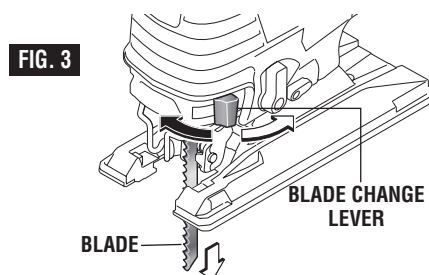

FIG. 3
3. Insert the saw blade (teeth in cutting direction) until the "T" part of the blade shank is completely inserted in to the blade clamp. (When inserting the saw blade, the back of the blade must rest in the grooves in double roller guide Fig. 3.)